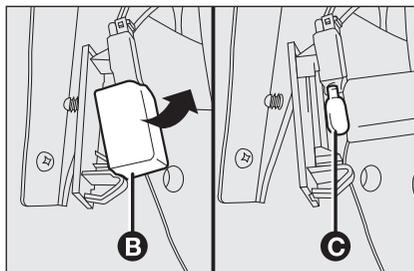

fig. 29
- open the bulb cover **B**-fig. 29 and replace the pressure-fit bulb **C**;